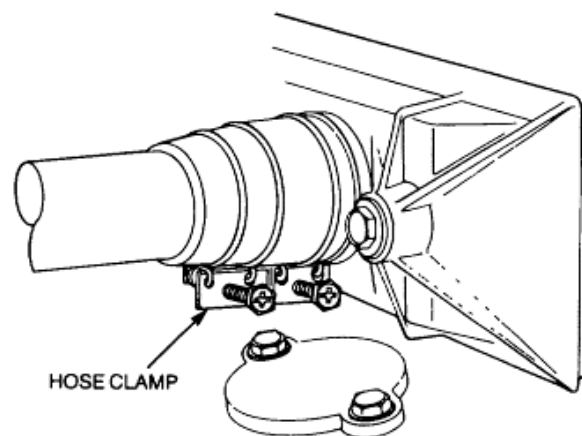

Figure 15 Rear Side Cover Plate Gasket Replacement
- b. Loosen the hose clamp securing the engine breather hose to the rear cover (Figure 15).